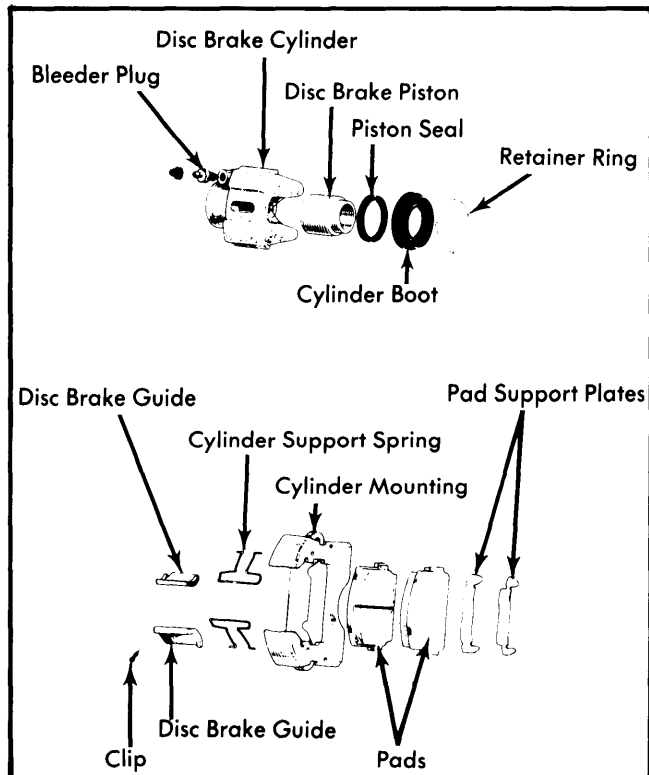
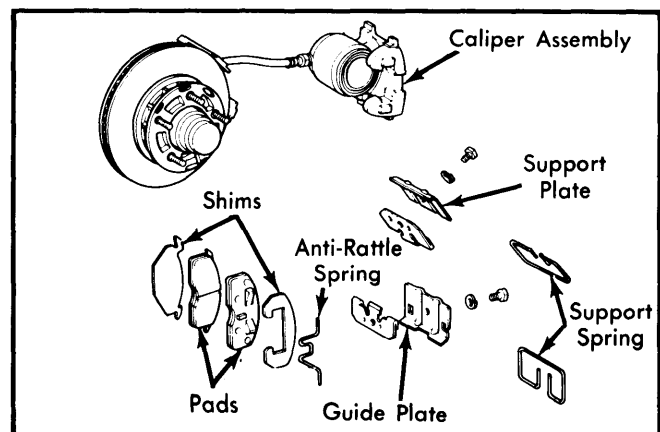

Fig. 2 Exploded View of F Type Disc Brake
Fig. 4 Exploded View of K Type Disc Brake
**Disassembly (K & F Types)** — Remove retainer ring (if equipped) and remove boot. Apply light air pressure to fluid inlet port and force piston from cylinder. Remove seal from cylinder without damaging cylinder bore. See Fig. 2 and Fig. 4.